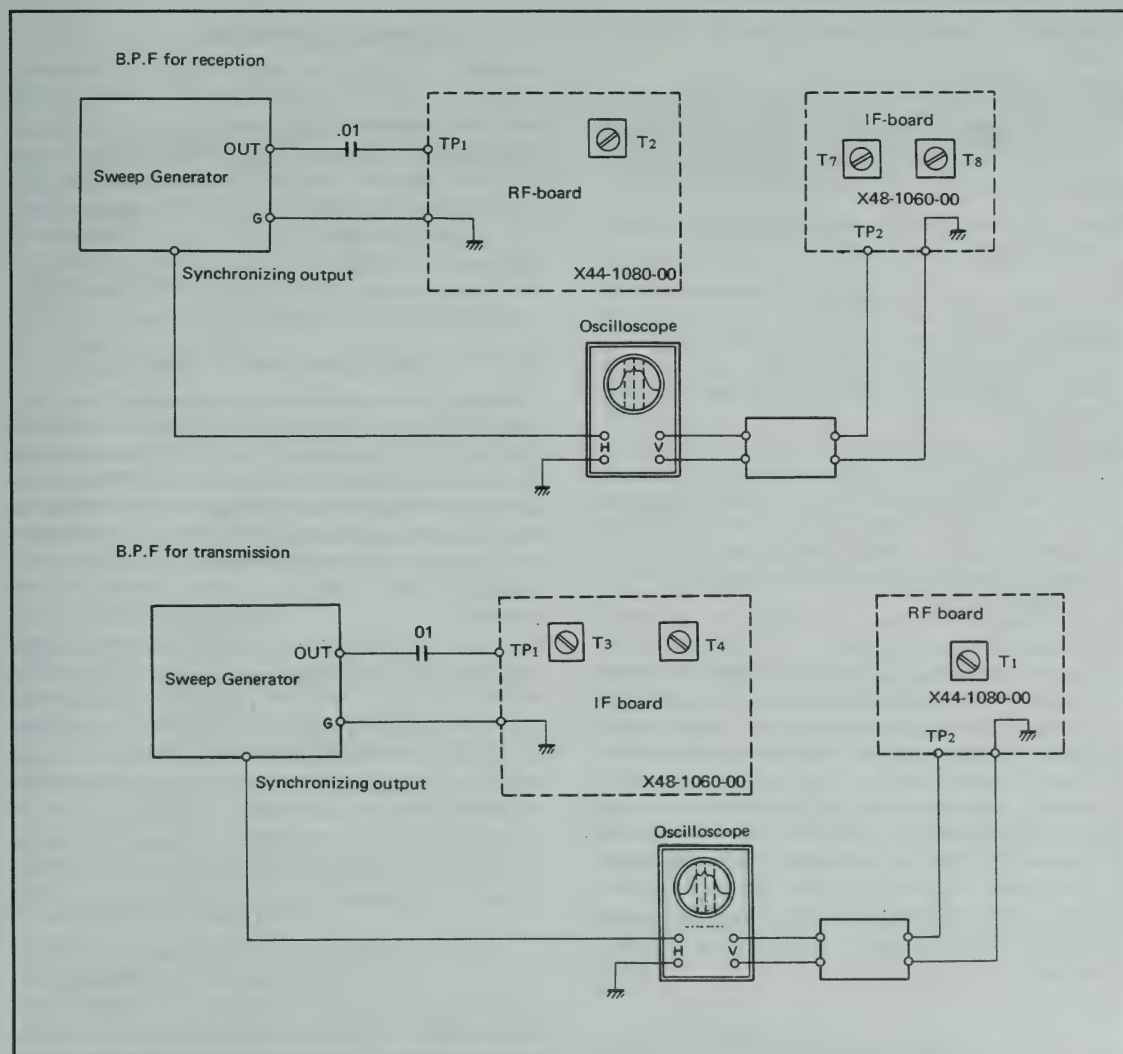
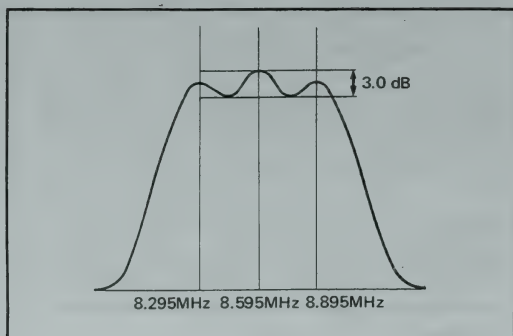

Figure 16. Band Pass Filter Test Circuit
Figure 17. B.P.F. Waveform
**PROCEDURE:** See Figure 16 for the test setup. After all of the connections described in Figure 16 have been made for the receiver adjustment, tune T2 on the RF board, and T7 and T8 on the IF board for the waveform shown in Figure 17.
Now make the connections for transmission as shown in Figure 16. Set the standby switch to SEND and adjust T3 and T4 on the IF board and T1 on the RF board for the waveform shown in Figure 17. Return the standby switch to REC.